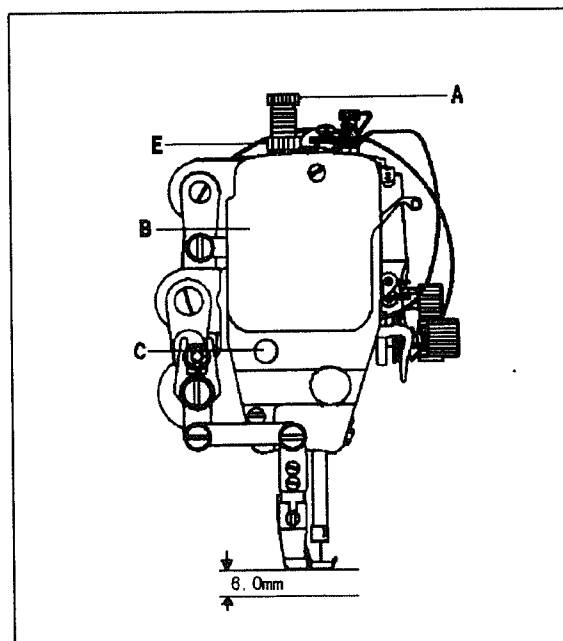

Fig. 10
11. POSITION PRESSER BAR (Fig.10)
First loosen Lock Nut (A). For heavy materials, turn the pressure regulating thumb screw as shown in Fig.10 (a) to increase the pressure, while for light materials, turn the pressure regulating thumb screw as shown in Fig.10 (b) to decrease the pressure. Then tighten Lock Nut (A).